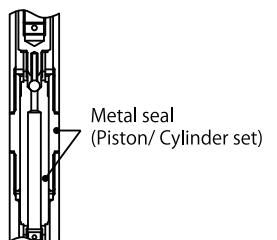

Fig. 10
- 9) Wash each part and if damage or wear is found, change to new parts. Especially if the metal seal parts are damaged or wear out, grease will leak and discharge pressure cannot be increased and consequently discharge volume will be decreased. In this case the piston and the cylinder must be changed to new parts simultaneously. (Fig.10)